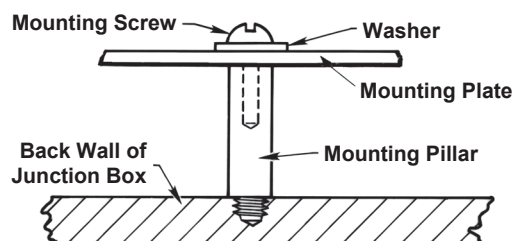
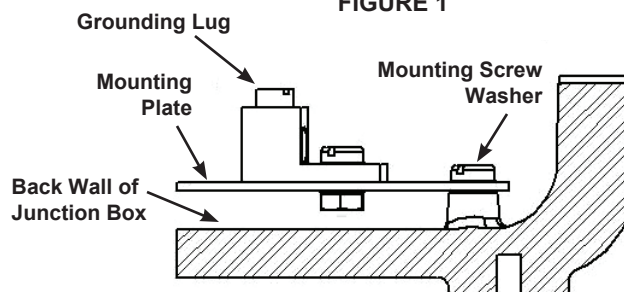

FIGURE 1
FIGURE 2
4. Install mounting pillars into back wall (bottom) of junction box by threading into tapped hole(s). Install mounting plate on pillars using screws and washers provided; securely tighten screws. See Figure 1. (Pillars are not required on some sizes of EJB/ECP series enclosures when mounting pads are cast into the enclosure body - See Figure 2).